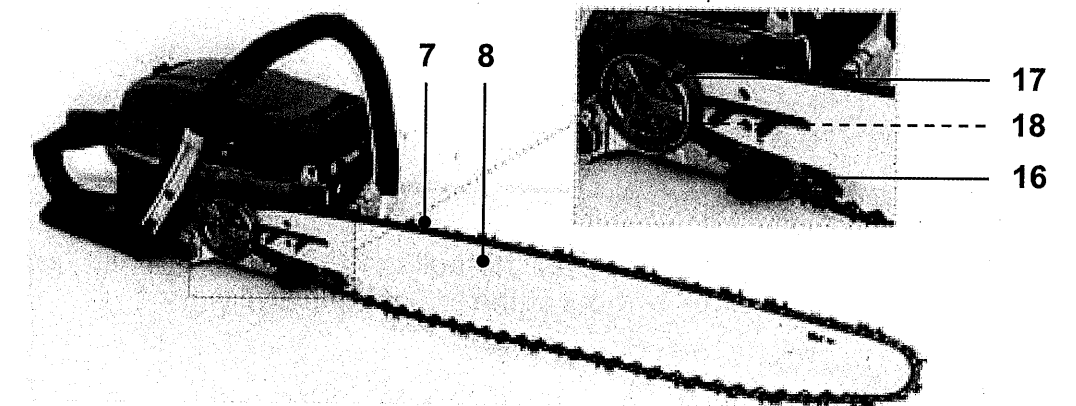

Fig. 4
6. Place the saw chain (7) over the drive sprocket (18) (behind the clutch (17)) and fit around the guide bar (8). Make sure the saw chain is placed above the chain catcher (16) (Fig. 4).